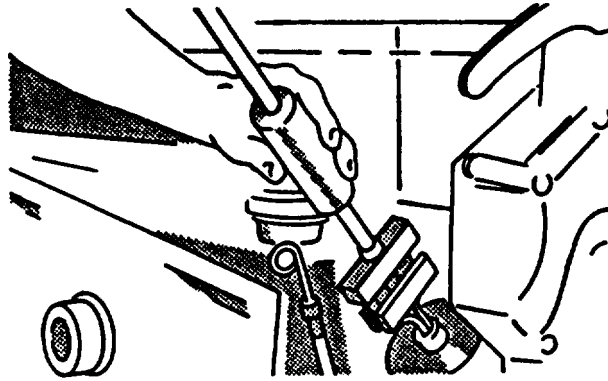

FIGURE 3-29. Removing Oil Filter Nipple
- i. If defective, remove screw (18) securing strap (19) to engine; remove strap.
- j. Remove oil filter nipple (20) from cylinder block with a suitable pilot bearing puller, refer to FIGURE 3-29.